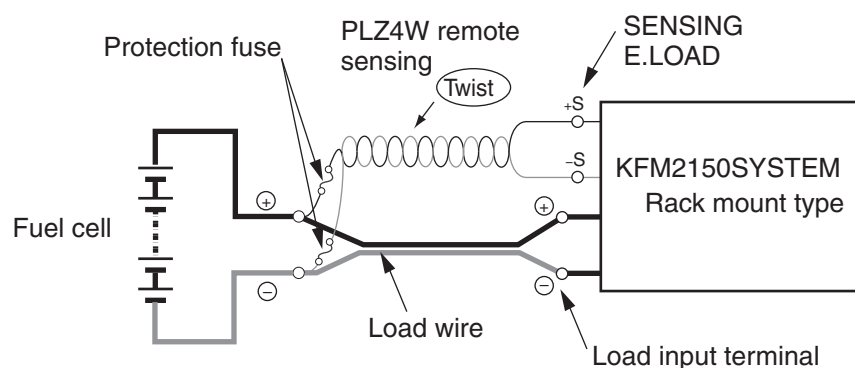

Fig. 3-5 PLZ4W remote sensing wiring
- If the load wire comes loose while using PLZ4W remote sensing, the sensing wire or the PLZ-4W remote sensing circuit may break. Accidents can be prevented by connecting a protection fuse as shown in Figure 3-5. Use a fuse with a rated current of 0.5 A and a rated voltage greater than or equal to the output voltage of the fuel cell under test.